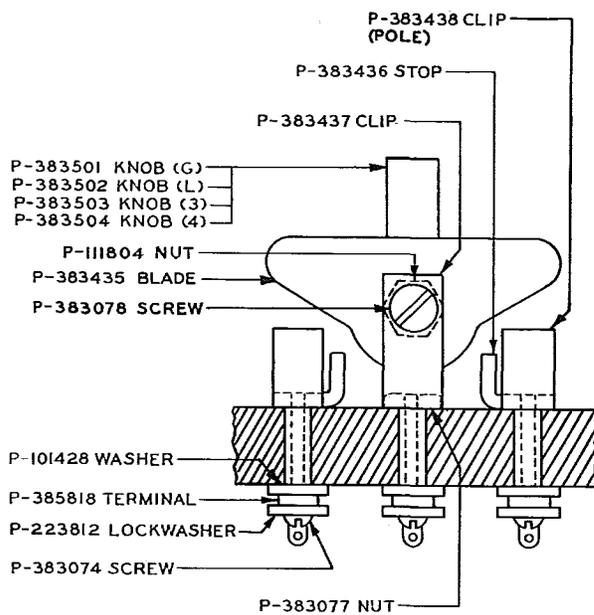

Fig. 9 - No. 214A Switch (Used on Nos. 35C and 35D Test Sets)
7. To revise piece-part information for the No. 214A switch (Fig. 9).